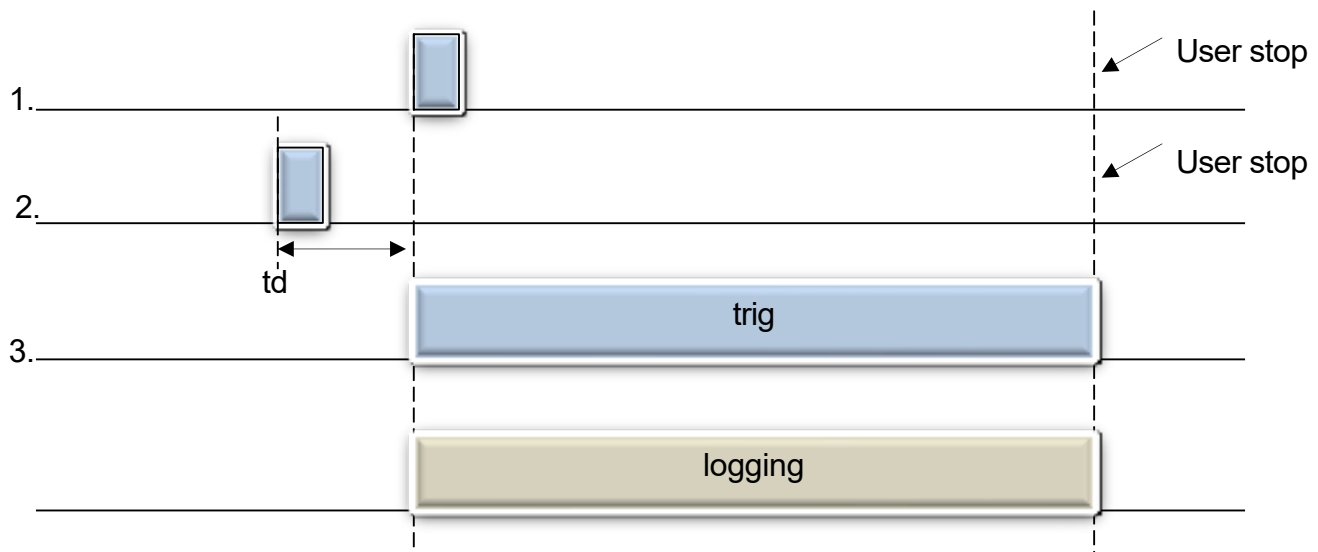

FIGURE 5.5: TRIG MODES
3. The measurement is triggered and stopped by a signal— see Figure 5.5.